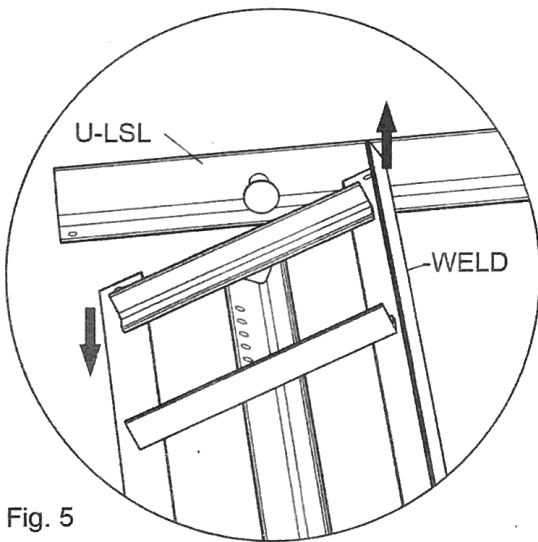

Fig. 5
11. Using 3/4" bolts (UMB75) and nylon insert locknuts (UMNNYL), hand-tighten the provided weldment (WELD) to the side rails with the spring holes towards the head of the bed. Make sure the weldment straddles the side rails as shown in Fig. 5. The head end is below the side rails, and the foot end is above the side rails.